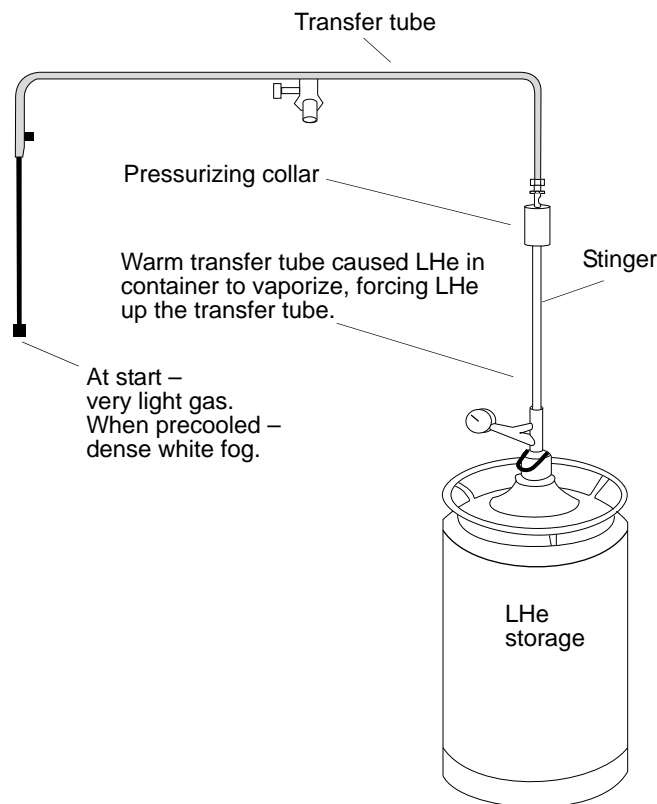

Figure 19. Precooling the Liquid Helium Transfer Tube
7. *Precool the helium transfer tube* by slowly inserting one end into the storage dewar with the other end open to the room (see Figure 19). Do not close the storage dewar exhaust port during insertion. The heat of the transfer tube (room temperature) will cause increased liquid helium boiloff while being inserted. This helium boiloff should *not* be allowed to build up inside the storage dewar causing pressure.